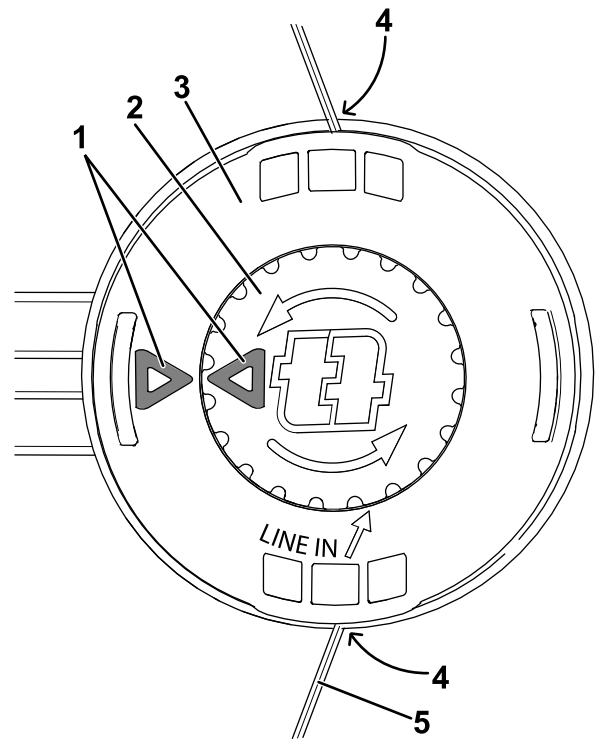

Figure 14
4. Press and turn the knob on the string head until arrow on the knob aligns with arrow on the string head (Figure 14).